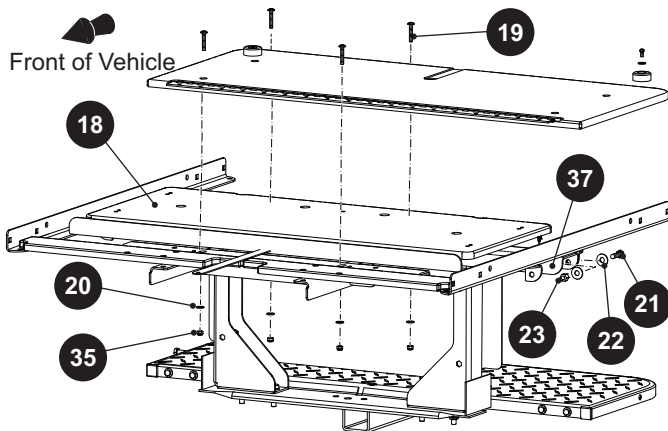

Fig. 4 Seat Bottom Removal
- Remove the four lock nuts (35), flat washers (20), and bolts (19) to remove the seat bottom (18) (Ref. Fig. 4).
- Remove bolts (21), flat washers (22), and lock nuts (23) that secure the crossmember to the vehicle frame.) (Ref. Fig. 4).